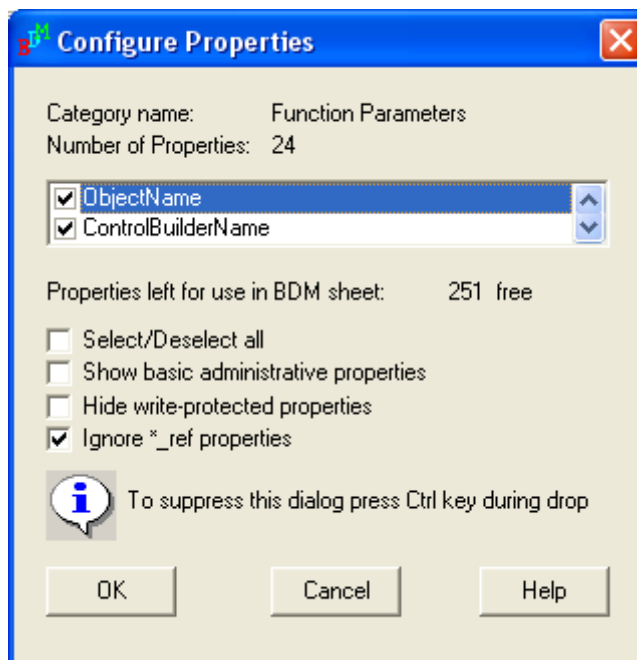
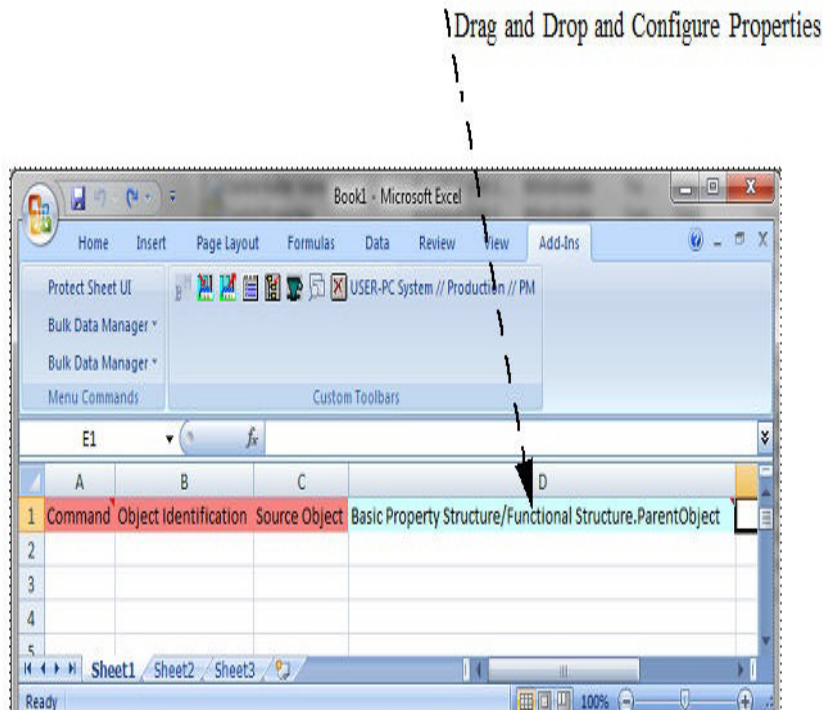

Figure 19. Configuring the Default Data Area, Configure Properties Dialog
Figure 20. Configuring the Default Data Area
1. Drag an aspect from the Plant Explorer and drop it into a cell of the Worksheet. During the drop action the dialog Configure Properties appears, see Figure 19, showing all accessible properties of the selected aspect category. Mark all properties in the check box which has to be written into the headline of the Worksheet and click **OK**. By this all selected properties of the selected aspect category are filled into the headline. The first drop operation automatically includes three required properties (“Command”, “Object Identification”, and “Source Object”), see Figure 20.